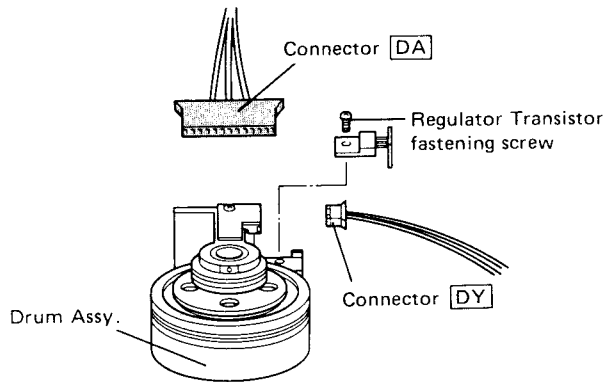

Fig. 3-5
- 3) Remove the Regulator Transistor fastening screw as shown in Fig. 3-5 and remove the Regulator Transistor.
- 6) Reconnect connector [DY] as shown in Fig. 3-5.